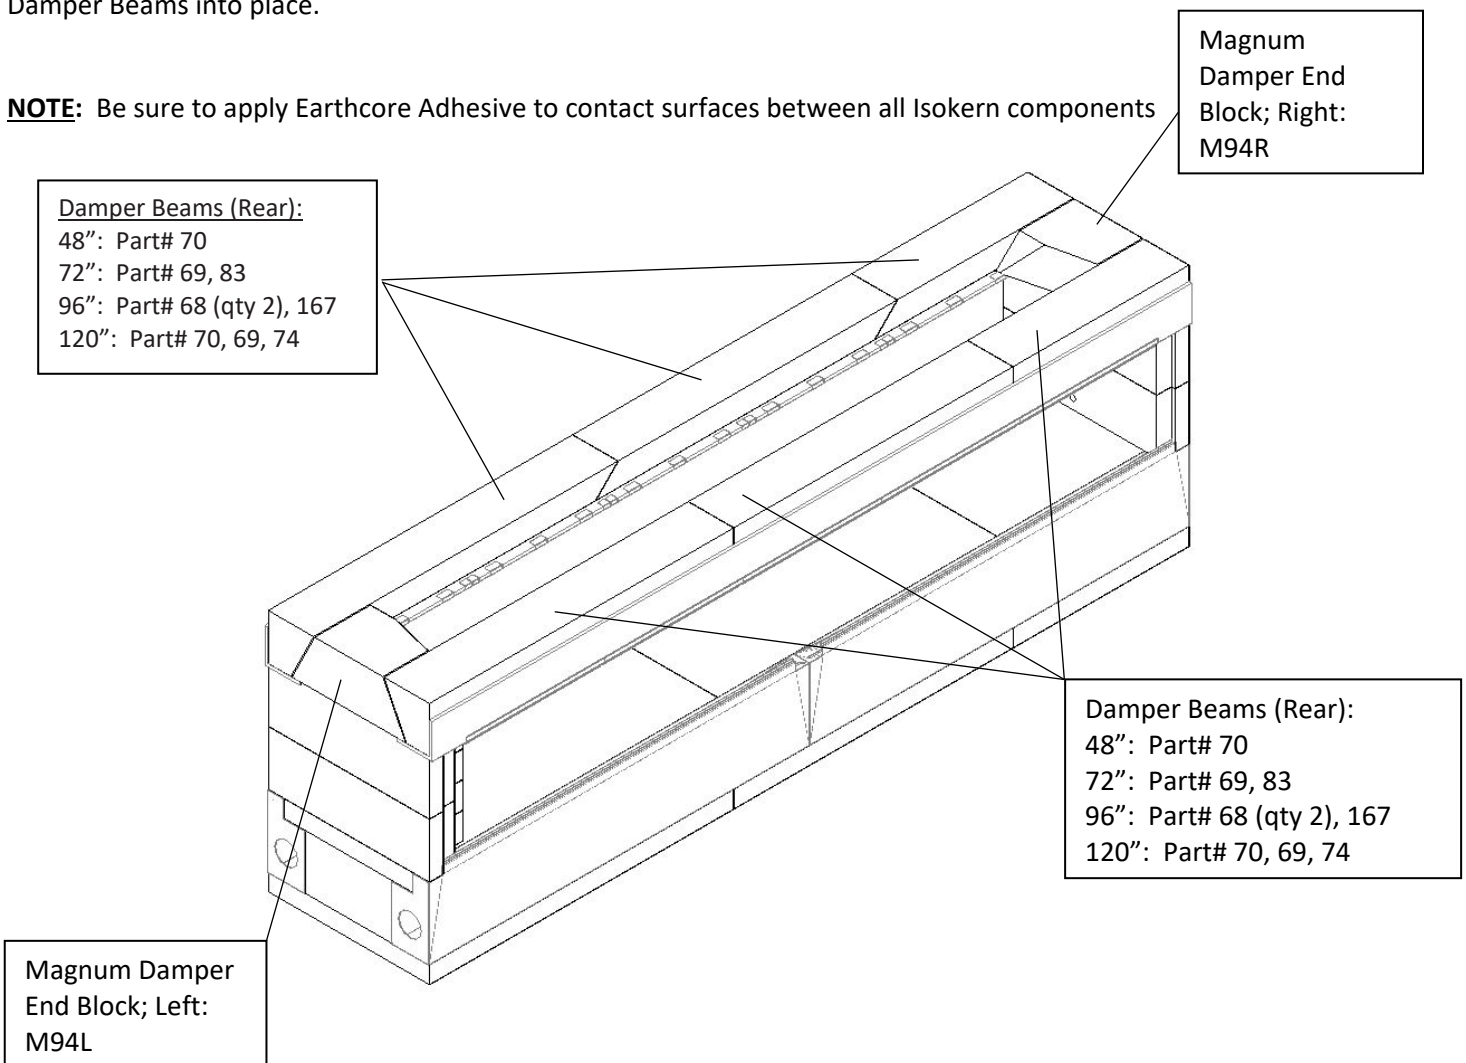

FIGURE 14
- 8) The fireplaces come with an 8" - thick damper beam assembly, a component group that is to be assembled on top of the firebox side walls and steel angle iron (no steel angle iron in 48" model). The damper beam assembly consists of long lintel pieces and two (2) short damper end blocks. The lintels will be equal to the width of the fireplace model that they serve. These components both sit on their narrow base so that their beveled face points down and into the firebox interior (**Figure 14**).
The damper end blocks are designed to sit on the firebox side wall between the front lintel and the back lintel. Each of the damper end blocks are designed for a specific side of the unit. When properly set, the damper end block fits flush with the outside face of the firebox side wall. (**Figure 14**).